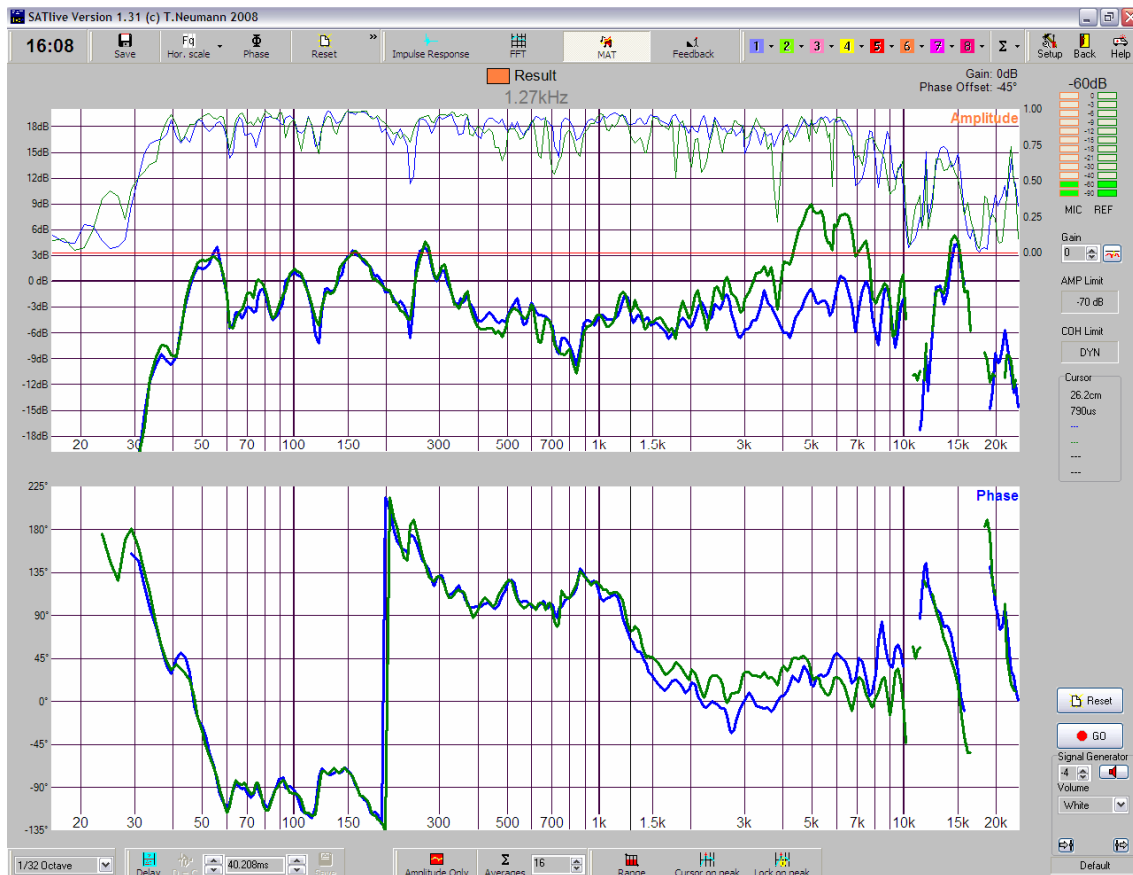

Fig. 2. The green trace shows the effect of a bell-type filter on the phase response.
a) Any variation on a system's magnitude frequency response will have an effect on the phase response. For instance, the phase curve changes when equalization is added. Figure 2 shows the result of adding a bell-type filter centered at 5.04 KHz, with a width of 0.42 Oct and +10dB gain, to the high frequency band on a processor. Phase rises just before the centre frequency and falls just after it.